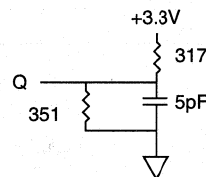

Fig. 2 OUTPUT LOAD EQUIVALENT
- Output loading is specified with $C_L = 5pF$ as in Fig. 2. Transition is measured $\pm 50mV$ from steady state voltage.
- The load used for V_{OH} , V_{OL} testing is shown in Fig. 2. AC load current is higher than the shown DC values. AC I/O curves are available upon request.